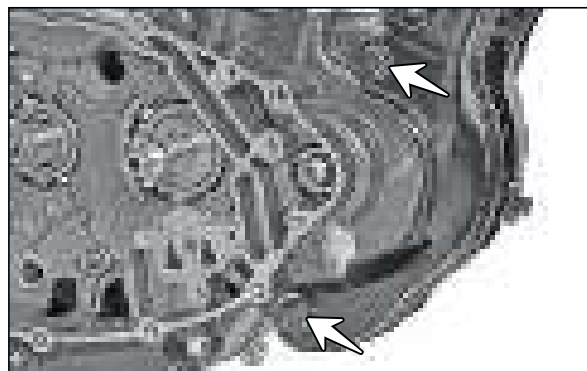

Fig. 3.140
- Remove the hexagonal flange bolt (M8x100 - 1 No.) and (M8x120 - 1 No.) from the mounting of bracket engine mounting RH and take out the bracket. (Fig. 3.140)